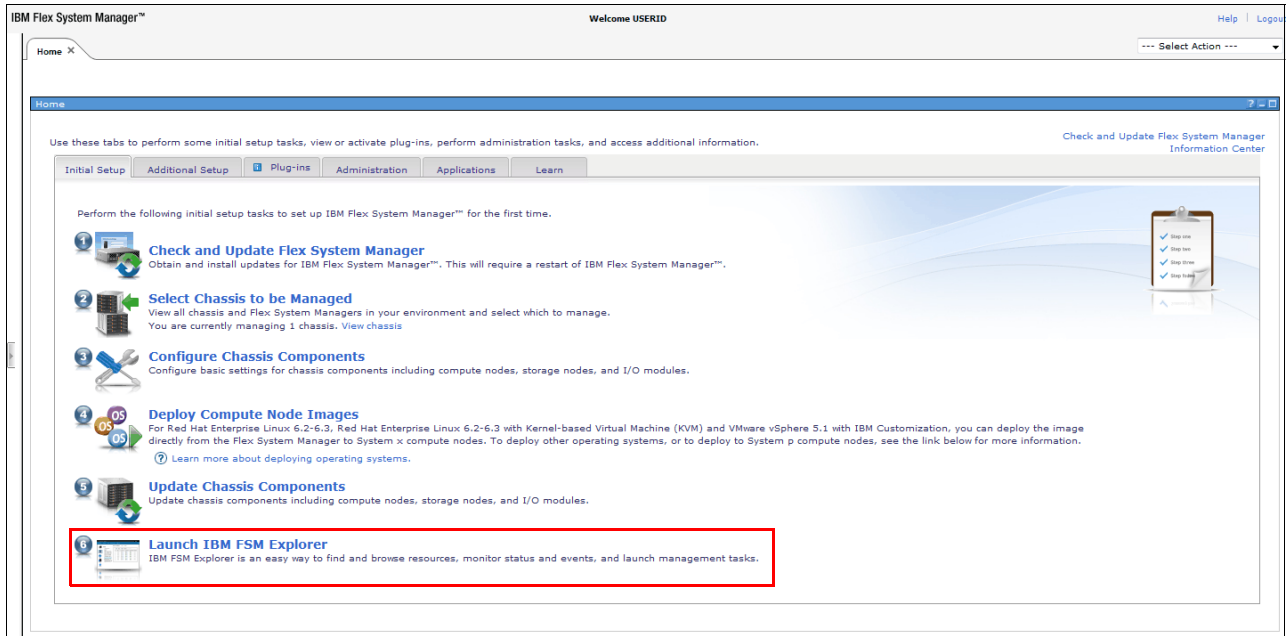

Figure 4-1 Launch IBM FSM Explorer
1. Open a web browser and point it to the IP address of the FSM and log in. The following menu panel (Figure 4-1) displays, giving you a number of selections.